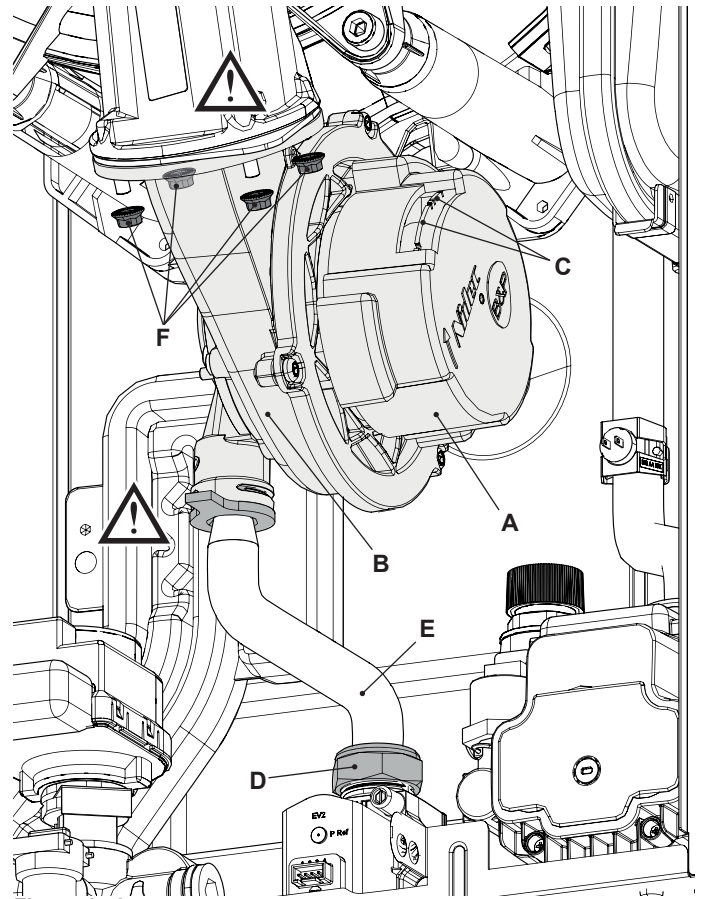

Figure 17.2
- 3 Unscrew the gas connector "D" and remove the gas pipe "E" (Figure 17.2).
Before reassembling ensure the fan gasket (Figure 17.2) is correctly mounted.